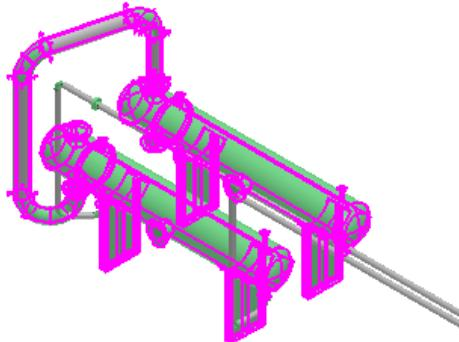

Figure 44: Selected Pipe Run and Equipments
5. While holding the CTRL key, select the equipments **40E-101A** and **40E-101B** along with the pipe run, as shown in Figure 44.